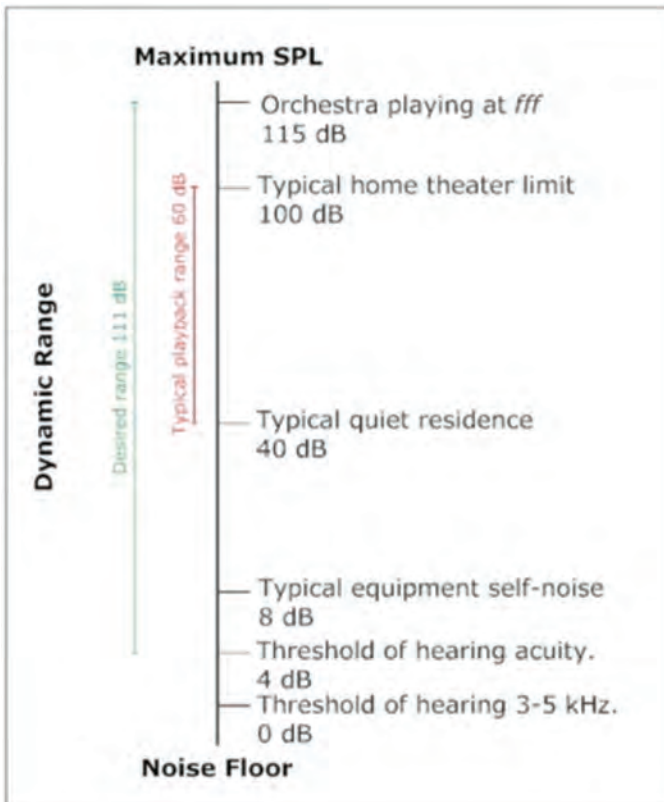
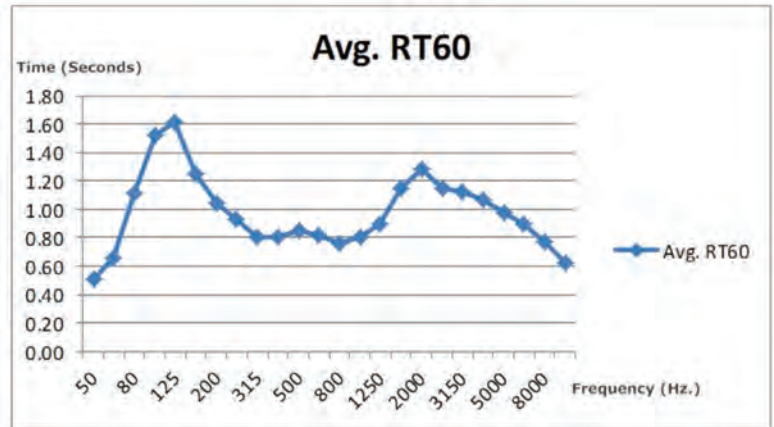

Figure 1 Typical residential vs. desired dynamic range.
Figure 2 Typical residential reverberation times.
Equivalent to a whisper at three feet, the average background noise in a quiet private residence is about 40 dB(A) SPL. The normal hearing threshold starts at 0 dB. We cannot hear any of the soundtrack information that falls below our background noise floor (See Figure 1). In the typical residential playback room it takes at least one second for sound to die down. One Mississippi. Don't expect to hear much low-level detail until one second after the soundtrack quiets down (See Figure 2). Most home theatre processors are not properly calibrated. Audio imaging may not relate well with the picture. Under these conditions, what can a new piece of electronics do to improve your experience or get you closer to what the artist intended? Absolutely nothing.